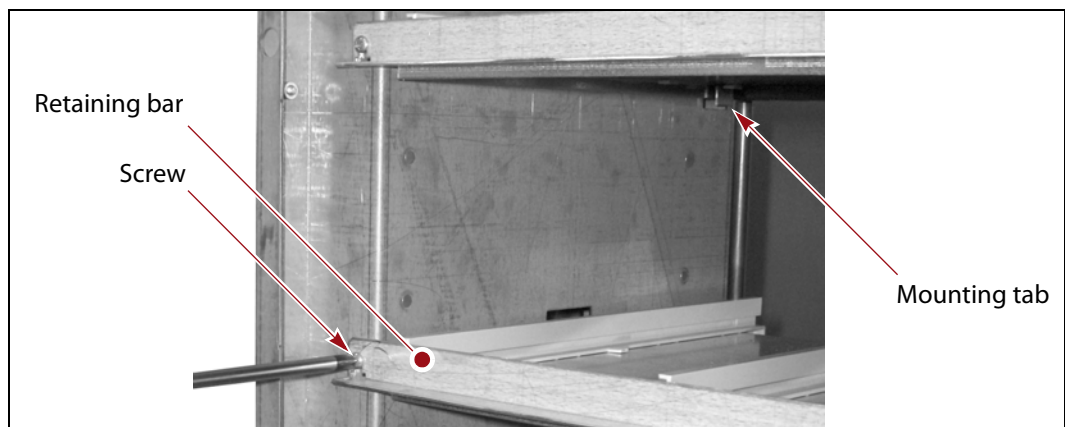

Figure 245 Removing the shelf retaining bar.
- a. Use a #2 Phillips screwdriver to loosen, but not remove, the two screws securing the shelf retaining bar to the chassis (shown in Figure 245).